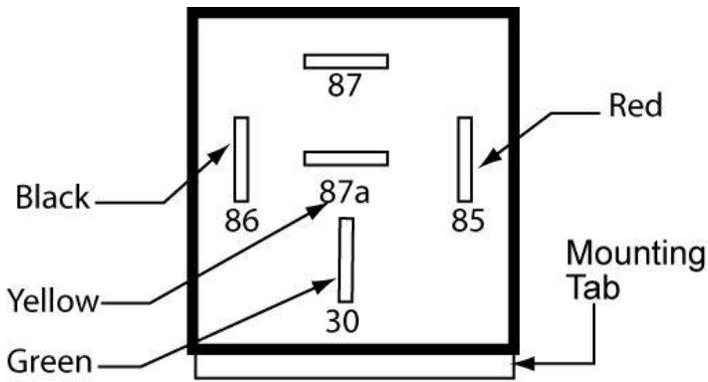

Figure 16
6. Refer to **Figure 16** for the proper relay color code connections in the event your relay should become disconnected.